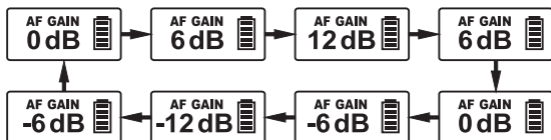

Fig. 7
4. AF Gain Setting, Fig. 7:
- (A) AF Gain can be changed from 12dB ~ -12dB, in 6dB steps.
- (B) Press MODE button to access AF GAIN parameter. Press SET button to change. To save, press MODE button or until flashing stops.
- (C) The higher the AF gain is, the lower the input signal of dynamic range will be and it will increase noise and feedback chances.
- (D) Set AF Gain to -12dB for guitar.
- (E) 0dB is the factory default setting.